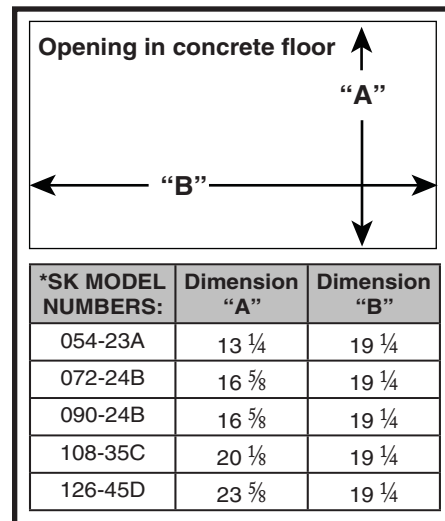

Figure 9. Cutout Dimensions
1. Create an opening in the floor according to the dimensions in Figure 9.